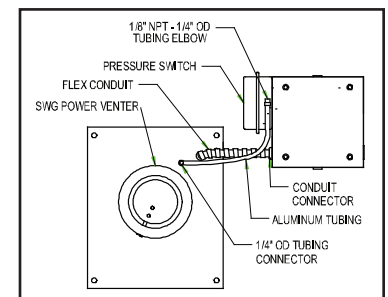

Figure 3
3. Mount the CK-63 junction box or installer supplied junction box onto the wall or floor joist without straining the flexible conduit. Fasten the CK-63 junction box through the four dimpled locations on the base of the box. (See Figure 3)
1. Attach the $\frac{1}{4}$ " tubing connector to the pressure tube on the SWG Venter. (See Figure 3)